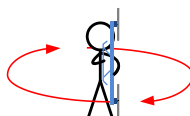

Fig.2
4. (Fig.2) Hold your Multi-rotor vertically and rotate it (**its nose is downward**) around the gravitational force line (about 360°) until the LED turns off, meaning the calibration is finished.